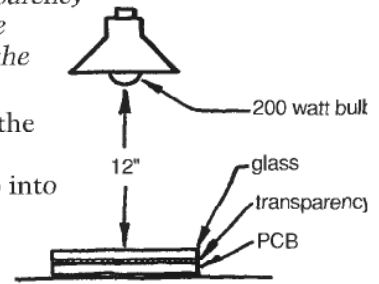

Figure 3.11
- Position the transparency on the pcb taking care not to scratch the photosensitive emulsion (Figure 3.11).